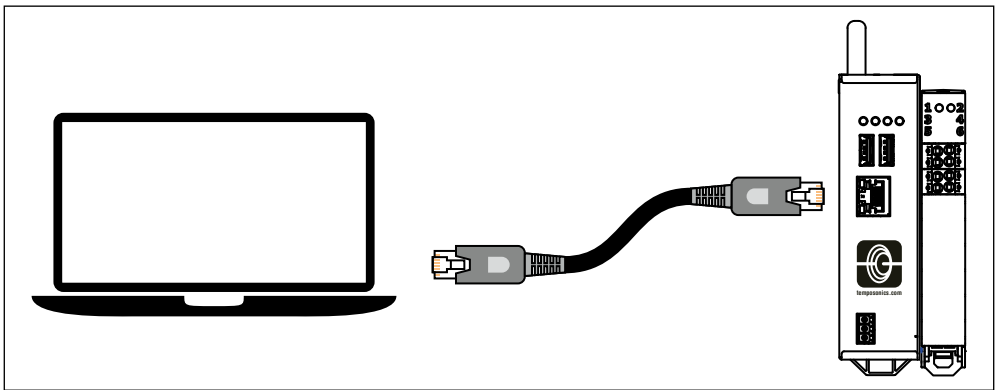

Fig. 16: LAN connection between computer and TempoGate® smart assistant
- Connect the TempoGate® smart assistant to your computer using a network cable (Fig. 16).